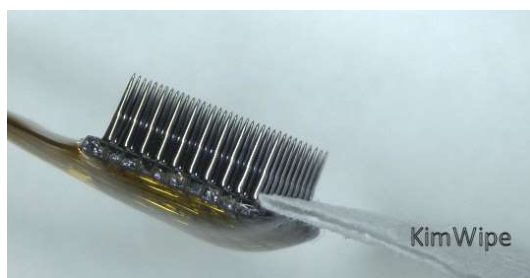

Figure 15–Wick away excess water with KimWipe
5. Let the array air dry at room temperature. You may wick away excess rinse water with soft KimWipe or filter paper by touched gently to the side of the electrode array (**Figure 15**).